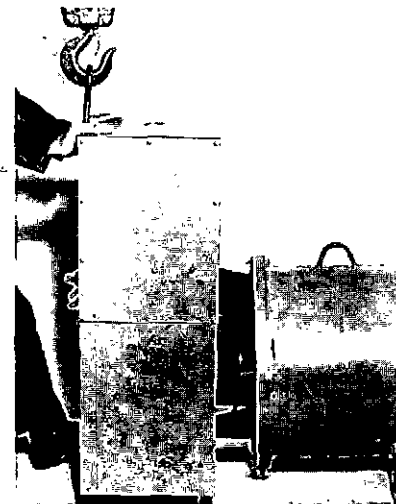

FIGURE 6-7
4. Remove conduit box. (Figure 6-7.)